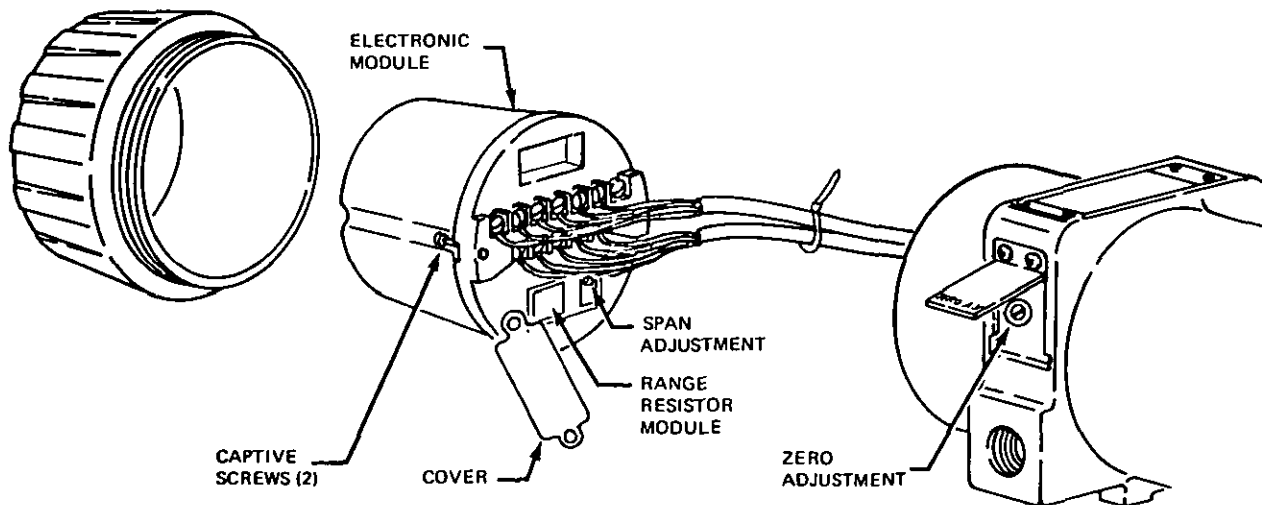

Figure 23. Access to Electronic Module
2. Remove the transmitter housing cover from the electronic module compartment. Remove the two captive mounting screws and lift out the electronic module (see Figure 23).
Use a small screwdriver to remove the right screw from the range resistor module cover. Loosen the left screw. Swing the cover down to expose the SPAN screw (see Figure 23).
The disassembly of the transmitter is usually limited to that shown in Figures 23 and 26. Normally, the electronic module and ZERO potentiometer are the only parts that will require replacement.